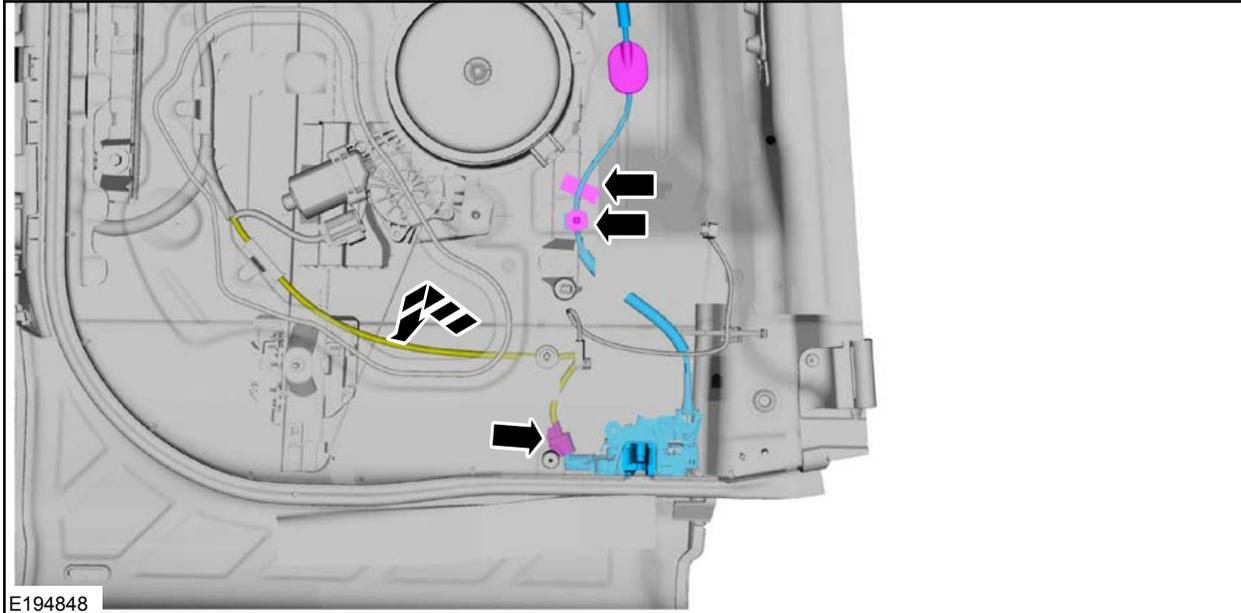

FIGURE 104
4. Inspect the interior door handle to latch cable for kinking. See Figure 104.
6. Detach the cable retainers and disconnect the electrical connector. Position the rear door latch outside of the door. See Figure 104.
9. Position the rear door lower latch back into the door. Attach the cable retainers and connect the electrical connector. See Figure 104.